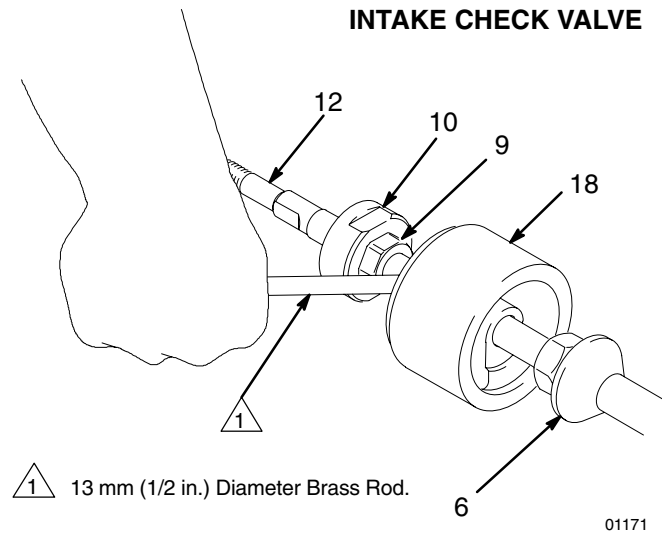

Fig. 7
2. Hold the flats of the priming piston rod (12) with an adjustable wrench, and use a second wrench to unscrew the priming piston nut (14) from the rod. Slide the priming piston (15) and guide (13) off the rod. Inspect the outer surface of the guide (13) and the inner and outer surfaces of the piston (15) for scoring, wear, or other damage.
3. Stand the pump upright in a vise. Loosen the packing nut (2) using the packing nut wrench (104) supplied, or a hammer and brass rod. Using a socket wrench, remove the six capscrews (32).
4. Tap the underside of the outlet housing (19) with a rubber mallet to loosen the housing from the cylinder (4). Lift the outlet housing off the pump and set it aside. Be careful not to scratch the displacement rod (1) while removing the housing. Remove the seal (39) from the top of the cylinder.
5. Lift the cylinder (4) up off the intake housing (17). The displacement rod (1), piston assembly, intake valve assembly, and priming piston rod (12) will come with the cylinder.
6. Place the cylinder (4) sideways in a vise with soft jaws. Using a rubber mallet on the end of the priming piston rod (12), drive the displacement rod (1) and piston assembly out the top of the cylinder. Continue to pull the rod out of the cylinder until the priming piston rod (12) comes free.
7. Remove the seal (39) from the bottom of the cylinder (4). Hold the cylinder up to the light at an angle to examine the inside surface for scoring or damage.
8. Place the flats of the displacement rod (1) in a vise. Using a 13 mm (1/2 in.) diameter brass rod, pry the intake check valve assembly away from the rod guide (18) far enough to apply wrenches to the valve assembly. See Fig. 7.